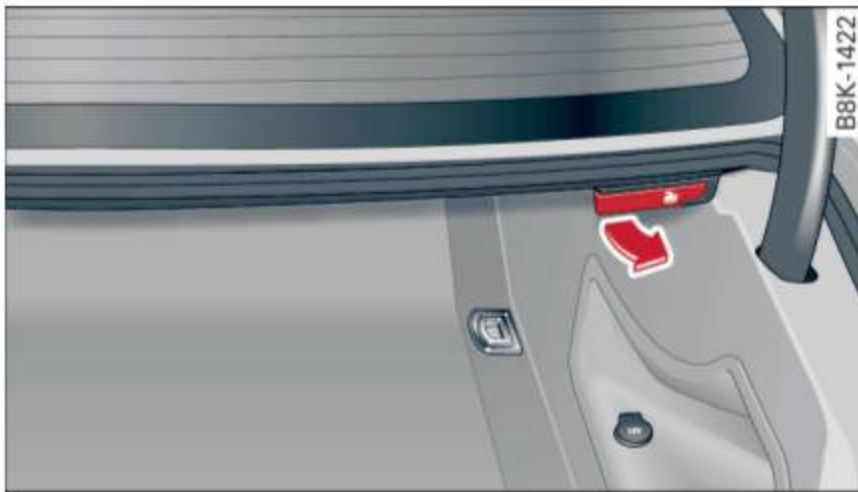

Fig. 66 Luggage compartment: release lever
- ▶ Pull the release lever ⇒ *fig. 66* in the direction of the arrow to fold the backrest forward.